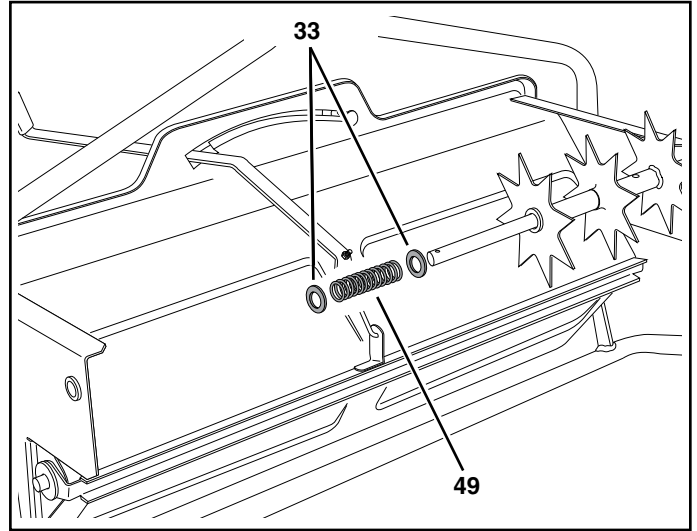

FIGURE 17
- Place a 5/8" flat washer (33), the compression spring (49) and another 5/8" flat washer onto the shaft. See figure 17.